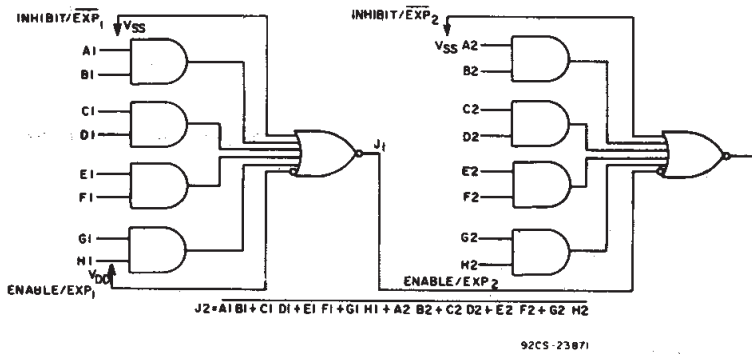

Fig. 10 - Two CD4086's connected as an 8-wide 2-input A-O-I gate.
■ CD4086B contains one 4-wide 2-input AND-OR-INVERT gate with an INHIBIT/EXP input and an ENABLE/EXP input. For a 4-wide A-O-I function INHIBIT/EXP is tied to V_{SS} and ENABLE/EXP to V_{DD}. See Fig.10 and its associated explanation for applications where a capability greater than 4-wide is required.
Fig. 10 above shows two CD4086's utilized to obtain an 8-wide 2-input A-O-I function. The output (J1) of one CD4086 is fed directly to the ENABLE/EXP2 line of the second CD4086. In a similar fashion, any